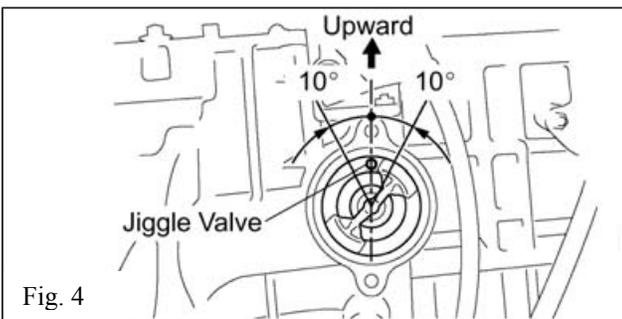

Fig. 4
- (f) **Install TRD 71° C (160°F) thermostat.** Be sure jiggle valve is in the 12 O'Clock position within +/- 10 degrees. (Fig. 4). Replace thermostat housing. (**Torque to 80 in-lbs**)